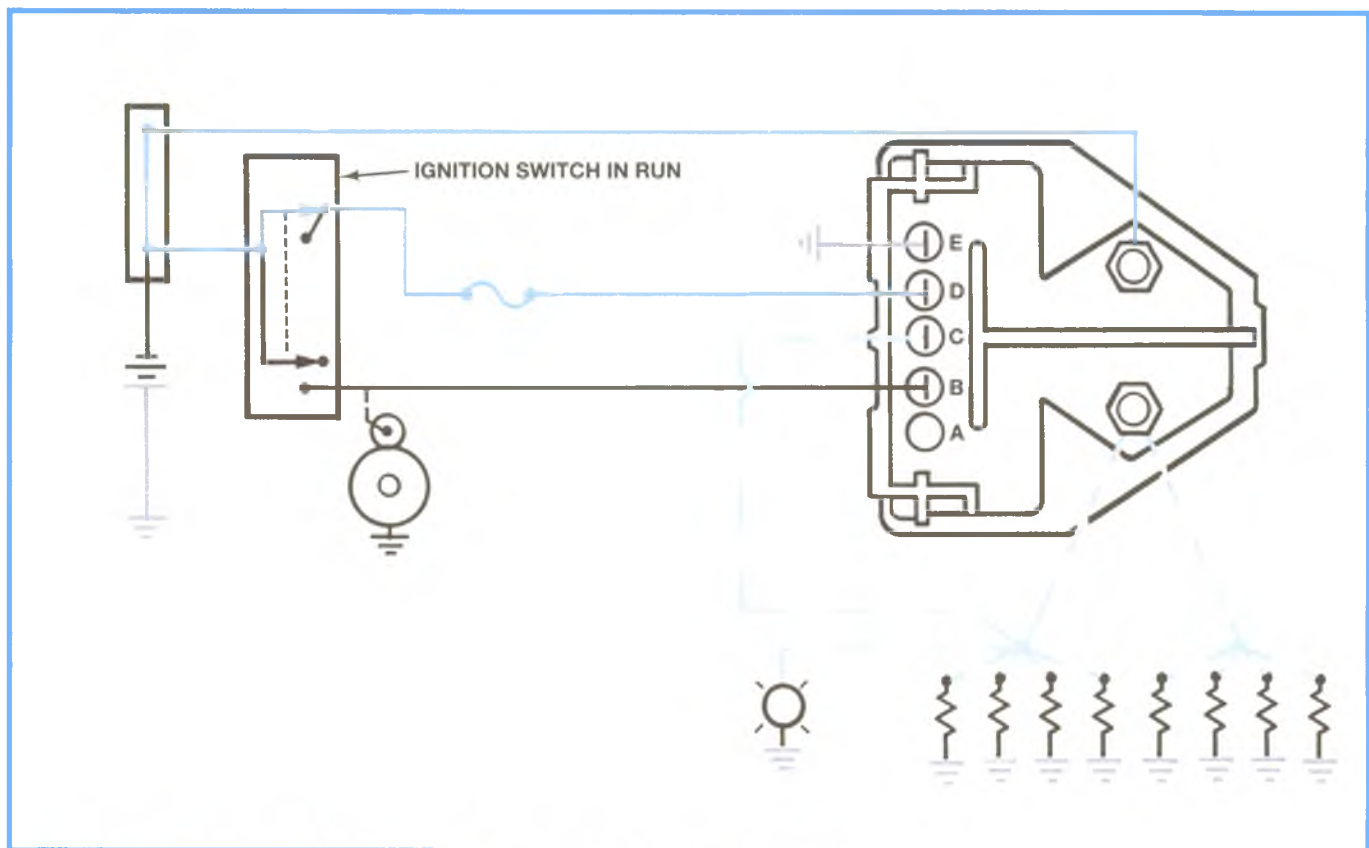

Figure 8-18, Glow Plug System Cycling – Before Cranking
- When the vehicle driver rotates the ignition switch to the RUN position, the following things occur (refer to Figure 8-18):